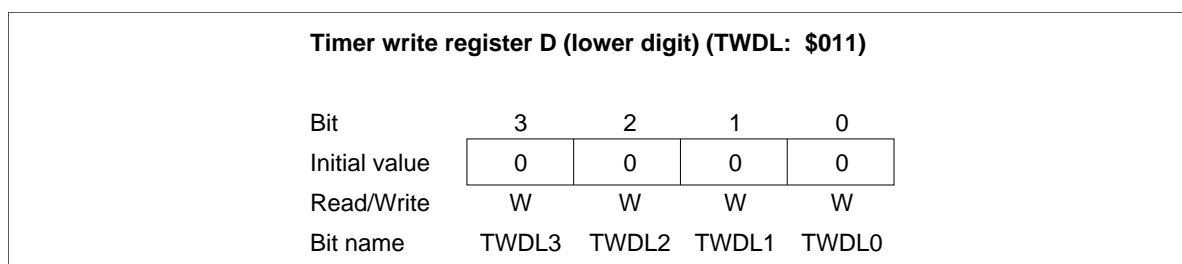

Figure 61 Timer Write Register D Lower Digit (TWDL)
- Timer write register D (TWDL: \$011, TWDU: \$012): Write-only register consisting of a lower digit (TWDL) and an upper digit (TWDU) as shown in figures 61 and 62. The operation of timer write register D is basically the same as that of timer write register B (TWBL: \$00A, TWBU: \$00B).